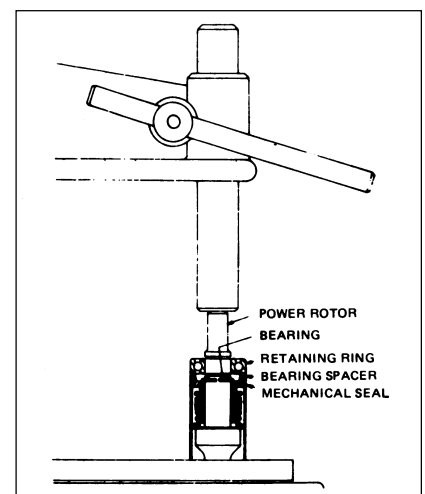

Figure 1
- b. Remove hex bolts (18).
- c. Remove bearing retainer (17).
2. Remove the outer retaining ring from the power rotor with a screwdriver (13).
3. Remove the inner retaining ring from its groove by pulling back the mechanical seal and prying with a screwdriver (13).
4. Press the bearing, spacer and stationary seat off the power rotor (Figure 1).